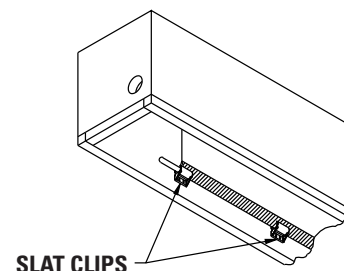

FIGURE 3
6. Carefully remove red slat clips (4 pieces for screens 10' and less in width, 6 pieces for screens over 10' wide). Slat pocket should move freely (Fig. 3).